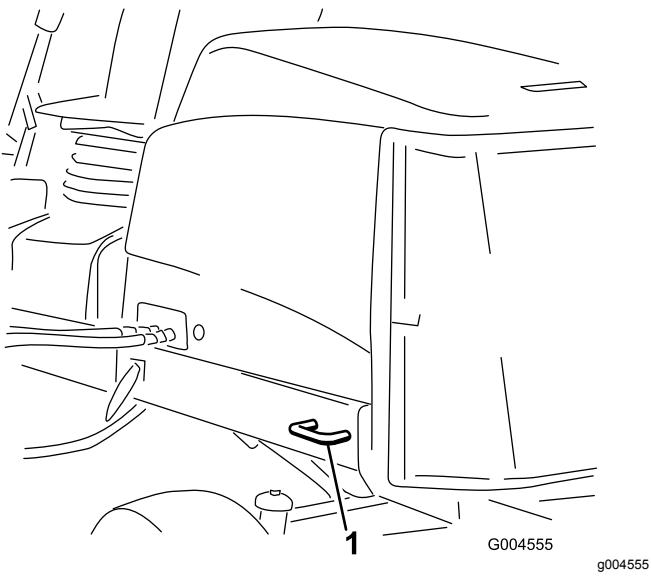

Figure 73
- Rear—each side of the machine on the rear frame (Figure 73)